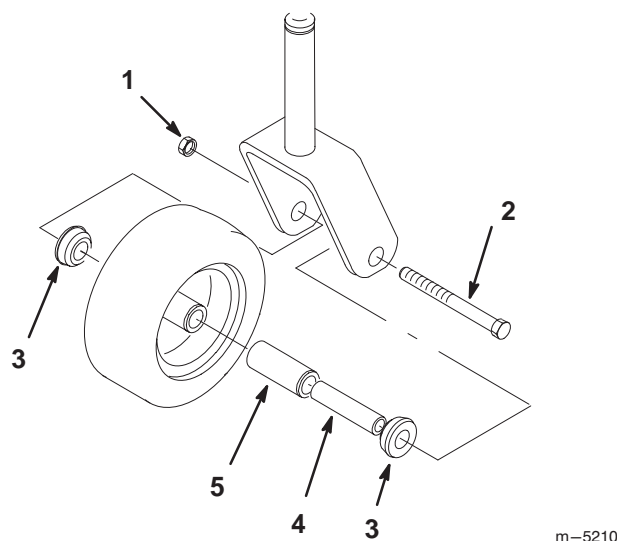

Figure 63
1. Remove the locknut and wheel bolt holding the caster wheel to the caster fork (Fig. 63).
2. Remove one bushing, then pull the spanner bushing and roller bearing out of the wheel hub (Fig. 63).
3. Remove the other bushing from the wheel hub and clean any grease and dirt from the wheel hub (Fig. 63).
4. Inspect the roller bearing, bushings, spanner bushing and inside of the wheel hub for wear. Replace any defective or worn parts (Fig. 63).
- To assemble, place one (1) bushing into the wheel hub. Grease the roller bearing and spanner bushing and slide them into the wheel hub. Place the second bushing into the wheel hub (Fig. 63).
- Install the caster wheel into the caster fork and secure with the wheel bolt and locknut. Tighten the locknut until the spanner bushing bottoms against the inside of the caster forks (Fig. 63).